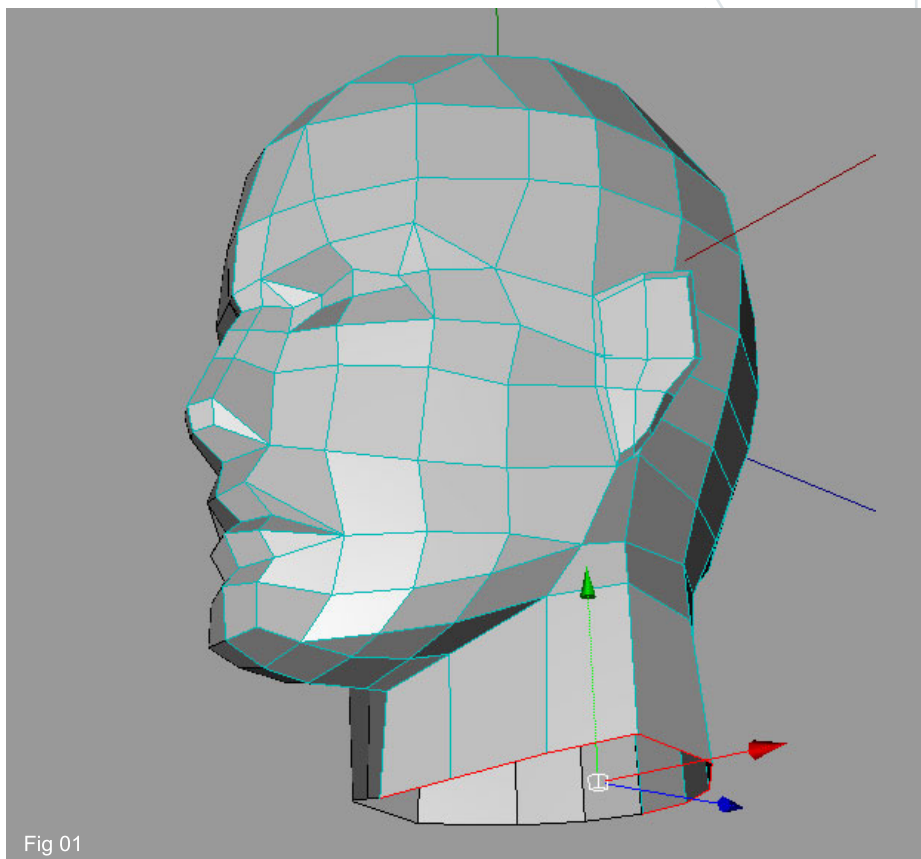

Fig 01
1. Open the file of the head and begin by selecting the bottom row of edges as shown in Fig01. Extrude the edges, then right click and choose Extrude from the menu. Remember that we still have the Symmetry on the object so check that all middle points are on the coordinate  $X = 0:00$ .